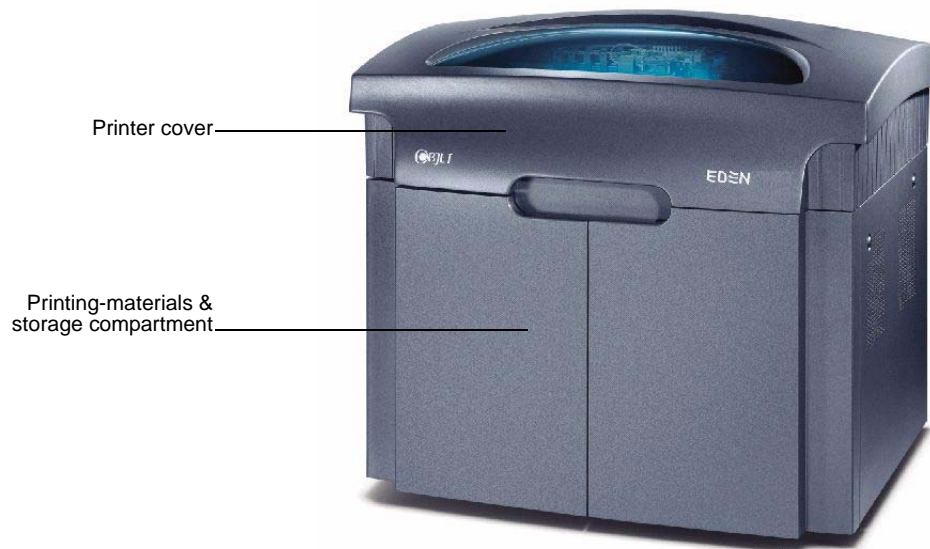

Figure 6-1: The Eden350V3D Printer
1. On the front of the printer (see figure 6-1), pull open the doors of the storage compartment.